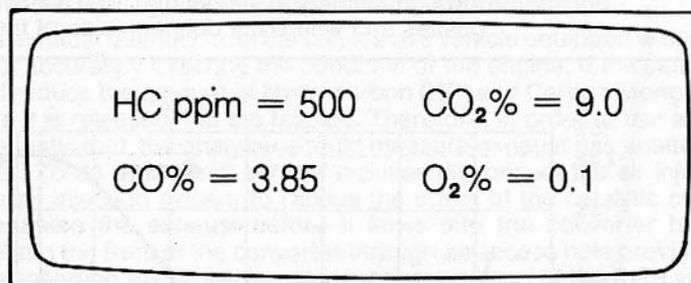

Fig. 5-18: Four-Gas Analyzer Displaying Very Rich Air/Fuel Readings
An engine operating condition that produces high Carbon Monoxide (CO), high Hydrocarbon (HC) readings, with low Carbon Dioxide (CO₂) and Oxygen (O₂) readings indicates a very rich mixture. See *Fig. 5-18*.